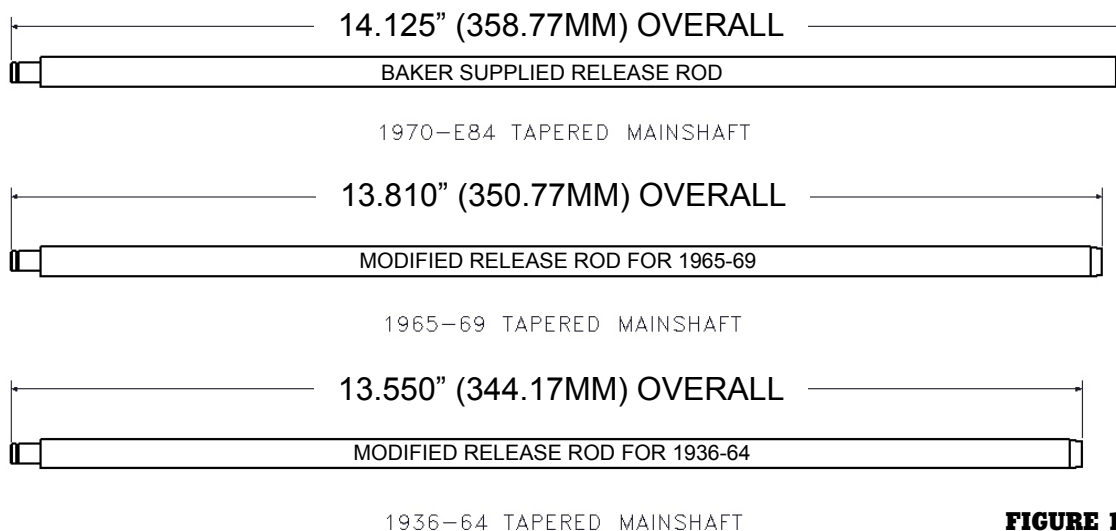

FIGURE 15
- 3) Using figure 15 cut the supplied rod to desired length; example 1965-69 models cut off 0.315" (8.00MM) or 1936-64 models cut off 0.575" (14.60MM). All measurements are within +/- 0.010" (+/- 0.25MM).